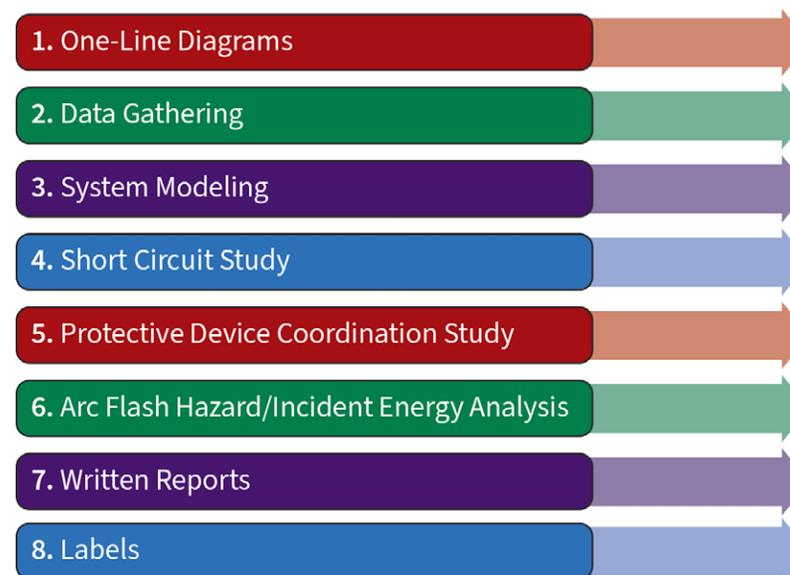

Fig. 3. These are the steps to include in an incident energy analysis process.
**Figure 3** shows the incident energy analysis process. Each of the tasks listed is a crucial component of a complete analysis, and it's very important that each is performed thoroughly and properly to create an accurate study.